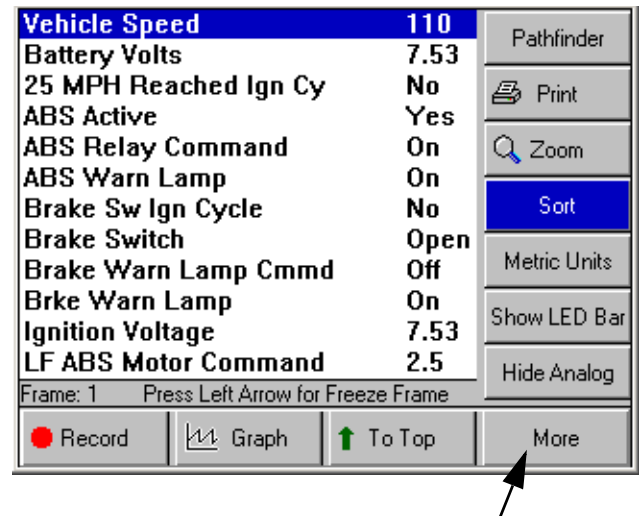

Figure 3.18: Datastream Screen - Sort Function
Note: Figure 3.18 shows all graphs disabled. To use the Sort by Graphed function, one or more graphs must be displayed. To use the Sort by Locked function, one or more lines must be locked.
- 4 From the Sort Options screen (Figure 3.18), select one of the following: